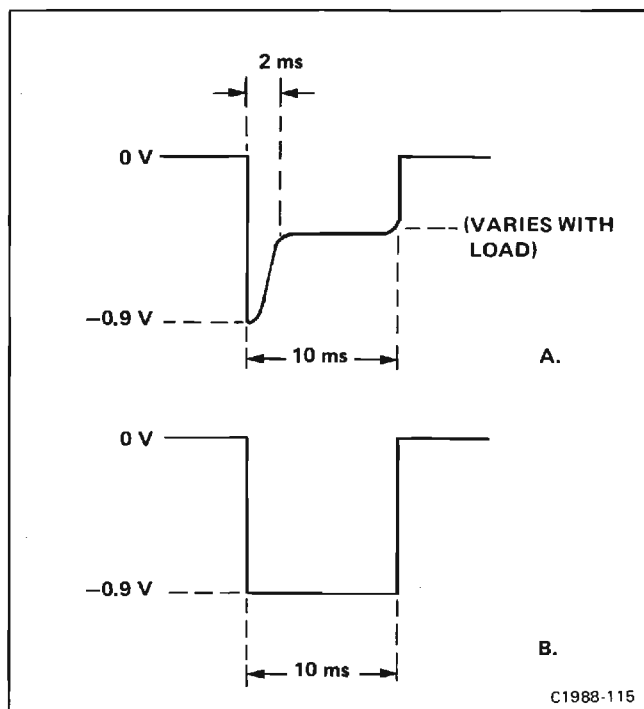

Figure 4-4. Current sensing waveform at R1284 showing:
- Compare the waveform on the test oscilloscope to those shown in Figure 4-4. If the waveform resembles that of Figure 4-4A, proceed to Step E of this procedure. If it resembles that of Figure 4-4B, proceed with part 4 of this step.